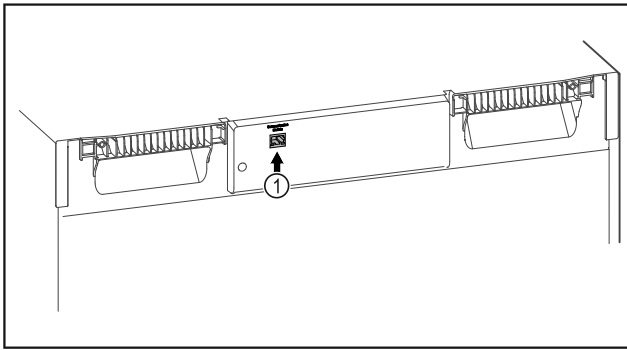

Fig. 94
- ☐ SmartModule Fig. 94 (1) is in use.